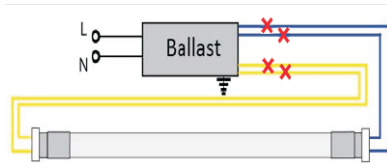

Figure 2
**STEP 4:** Disconnect connections to existing ballast as shown in Figure 2. Cut as far away from the lamp holders to allow for longer lengths of wire at both lamp holders. Properly discard ballast or leave it in the fixture with the wire capped off.